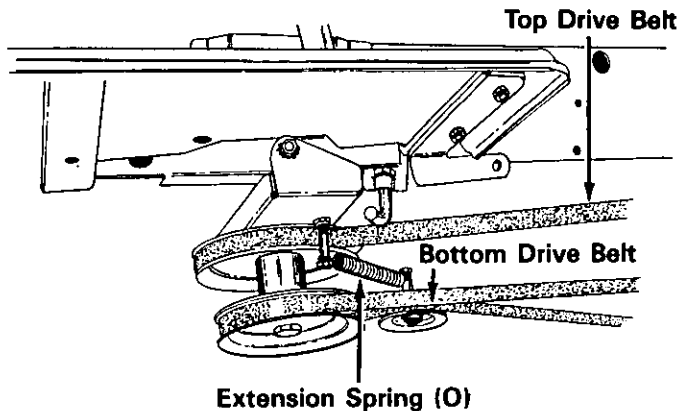

FIGURE 15
17. Attach one end of extension spring (O) to the hex bolt which secures the idler pulley to the bracket. See figure 15.
22. Pull moveable idler pulley to the outside position and place belt in pulley. Assemble idler spring to the hex bolt on jackshaft support bracket. See figures 15 and 16.